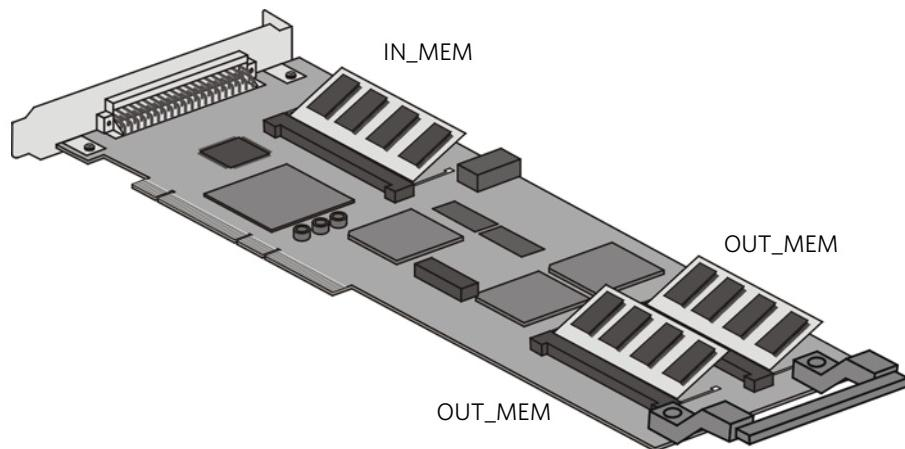

Figure 7: FusionIN board and memory modules
**Note:** The two memory modules on the FusionIN board are identical. One module is for IN\_MEM and the other module is for OUT\_MEM. See Figure 7 on page 99.
- a. Remove a memory module from the FusionIN board by locating and opening the two locking clips (one on each side of the memory module). To open the locking clips, push the clips outward from the side of the module. See Figure 7.
3. Push the memory module gently downward until the locking clips click into position. See Figure 7 on page 99.